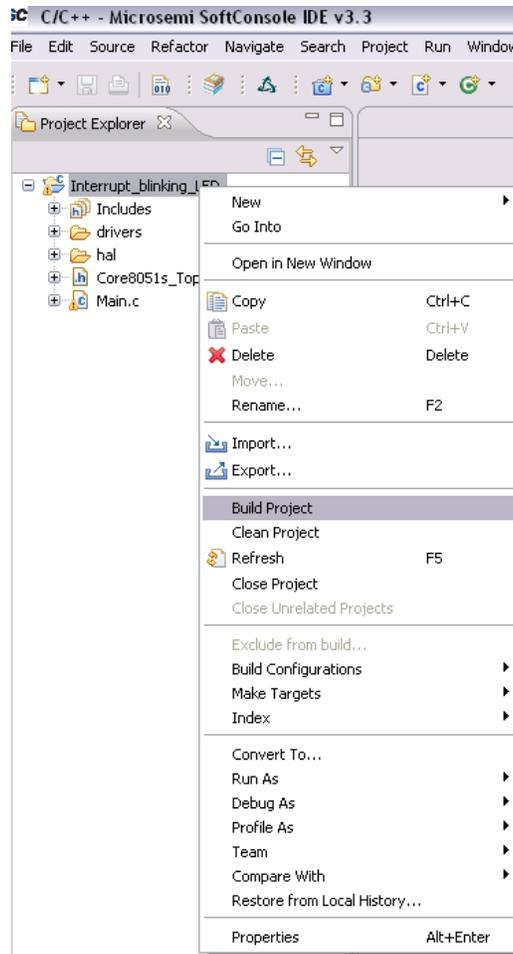

Figure 40 Build Project
- The SoftConsole project is ready to build. Right-click the project and select **Build Project**, as shown in Figure 40.